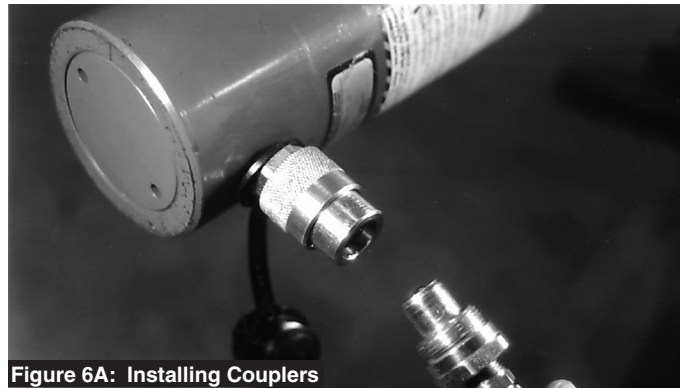

Figure 6A: Installing Couplers
6. Connect the hose from the “ADV” port to the hydraulic cylinder coupler located near the base of the cylinder. Make sure there is no dirt or debris in either half prior to assembly. Push the hose coupler firmly into the cylinder coupler, then tighten coupler collar. Connect the hose from the “RET” port to the remaining cylinder coupler. Figure 6A & 6B.